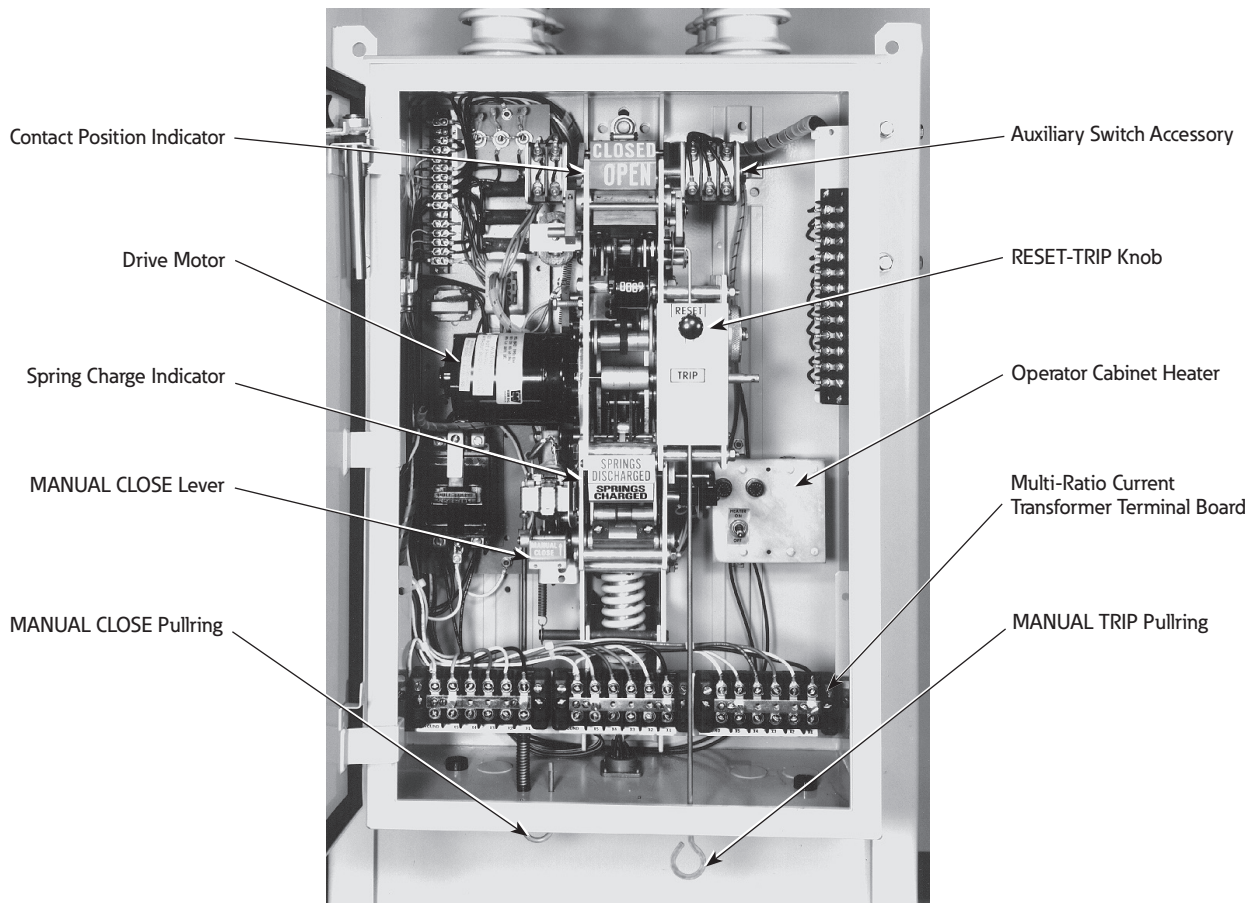

Figure 14. VSA recloser operating mechanism.
A closed recloser can be tripped manually, from inside the operator cabinet by moving the RESET-TRIP knob to TRIP or from outside the cabinet by pulling down the yellow MANUAL TRIP PULLRING under the cabinet. When the recloser is manually tripped, the closing circuit is opened to prevent reclosing. Refer to Figure 14.
Closing springs must be charged prior to manual closing operation (see the Testing Operation section of this manual). There are two ways to manually close the recloser. Refer to Figure 14.
3. Test manual open, see Figures 14 and 15. Confirm that the contacts have opened by: